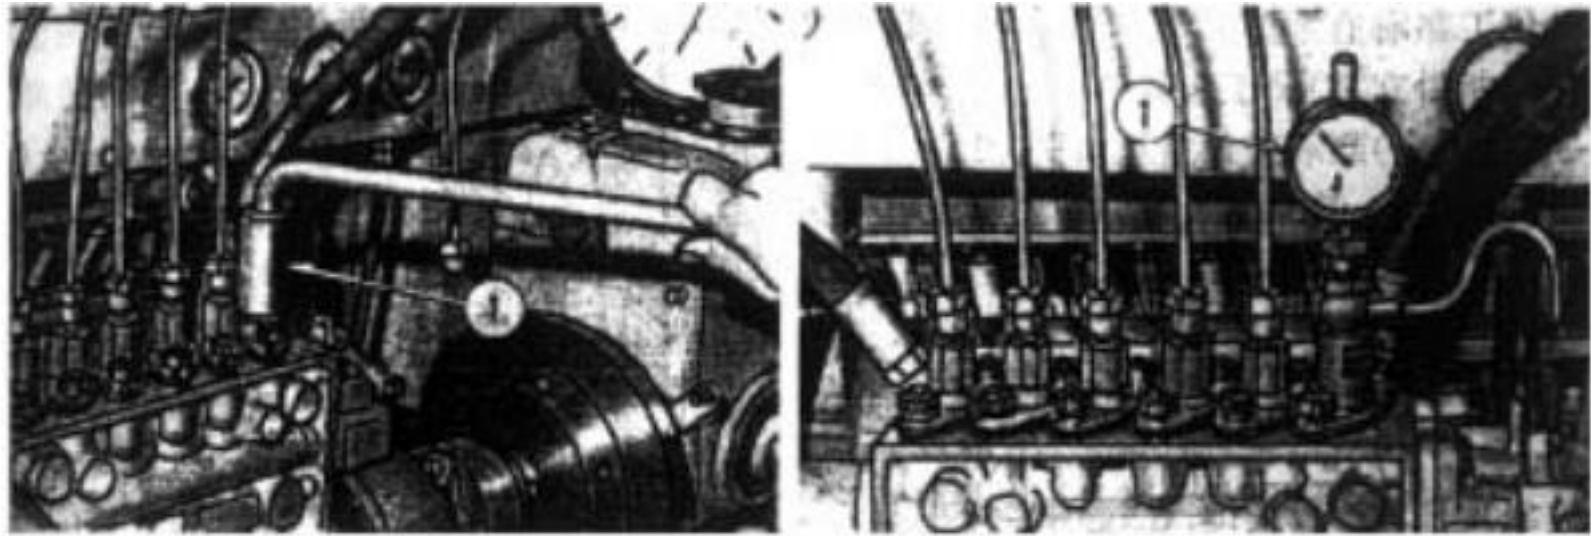

Fig. 2-48 Measure the pre-travel of the plunger by using the method of overflow
- As shown in Fig. 2-48, disconnect the high-pressure fuel pipe connector from the branch pump of the first cylinder, remove the fuel delivery valve unit and the sealing washer, and then fit the measuring set on the fuel outlet connector of the branch pump. The measuring set is actually composed of a dial indicator fit on the fuel outlet pipe sleeve and an overflow pipe. After the measuring set is installed, let the gage pin of the dial indicator touch the top of the plunger directly. Open the low-pressure fuel supply pipe of the tester, rotate the camshaft to set the plunger at the bottom dead center (the bottom dead center of the plunger can be seen on the dial indicator), zero the pointer of the dial indicator, operate the load lever of the fuel injection pump to put the injection pump at its maximum fuel supply position, and fuel will flow out of the overflow pipe. Then, slowly rotate the camshaft in the operating direction of the fuel injection pump, stop the operation when the fuel flow from the overflow pipe of the measuring set. The value indicated by the dial indicator at this time is just the pre-travel of the plunger. If the value obtained is unsatisfactory, adjustment should be made.